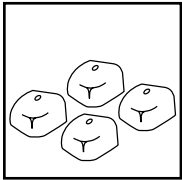
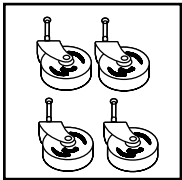

FIGURE 1
FIGURE 2
1. You will find four caster feet **FIGURE 1**, four casters **FIGURE 2**, and four screws with your wet/dry vacuum.